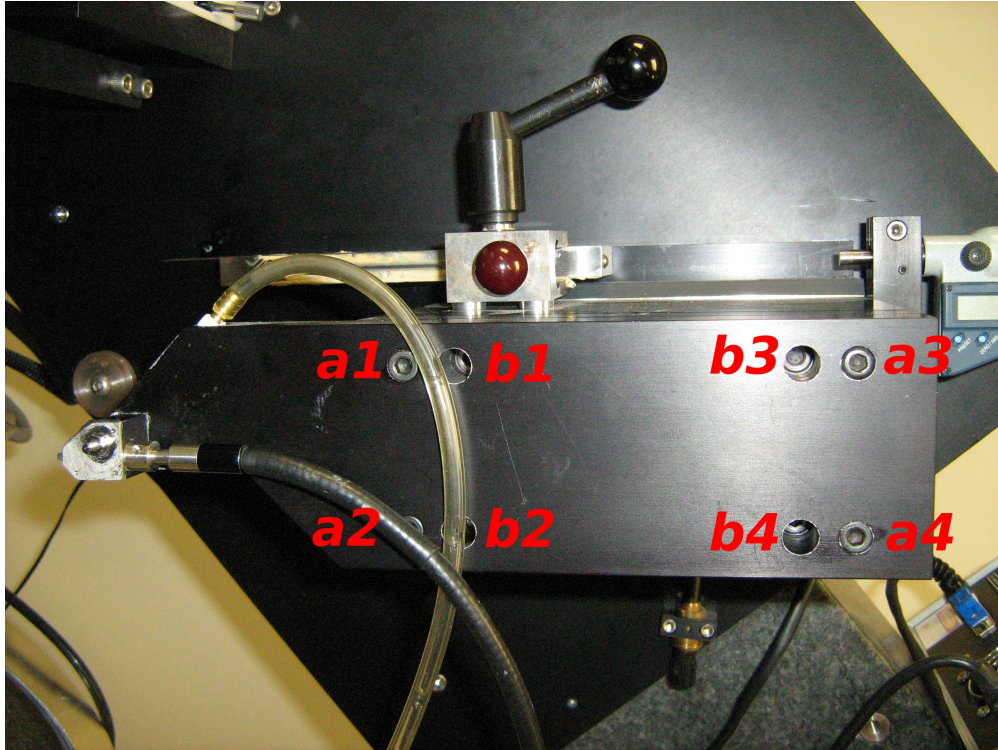

Figure 13: Knife alignment adjustment: a) adjust the knife roll, b) adjust knife yaw
- In the case the knife corner can't be seen (see Fig. 12(d)) or the knife tip is not all in focus upon focusing on one part (see Fig. 12(c) and Fig. 12(d)), adjust the knife yaw and pitch respectively see Fig.13)